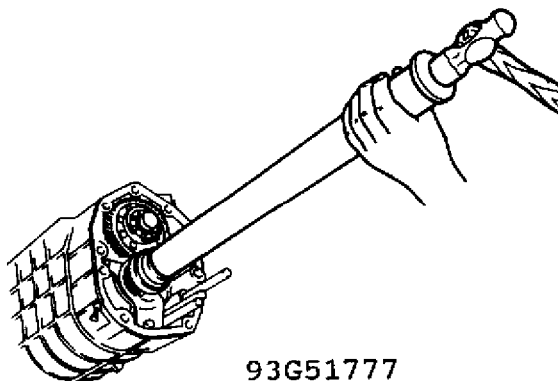

Fig. 8: Rear Bearing Installation (R-Type)
1. Drive on the mainshaft rear bearing using a suitable pipe, fully seating it against the front "C" washers. See Fig. 8.